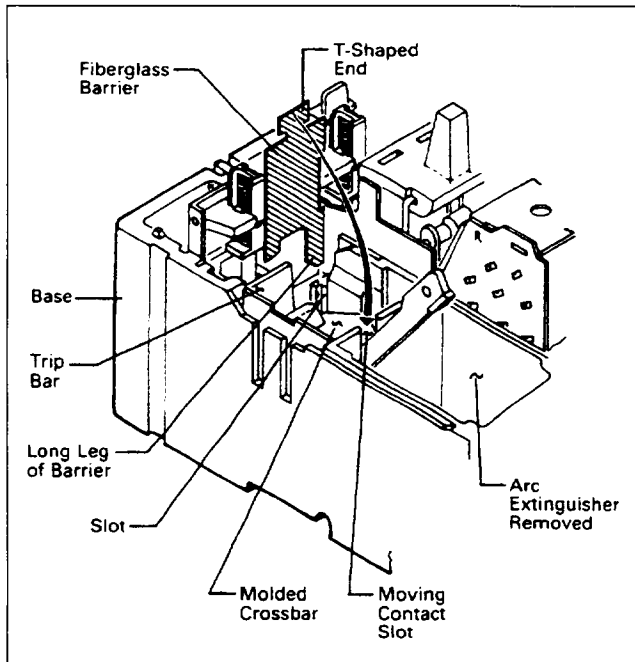

Fig. 2-5. Fiberglass Barrier Installation Position (Right Accessory Mounting Cavity Shown)
- c. Slide fiberglass barrier into position between molded crossbar (white) and trip bar (red). Long leg of barrier must go into angle in base molding. Bend barrier over and put T-shaped end into moving contact slot in base (see Fig. 2-5).